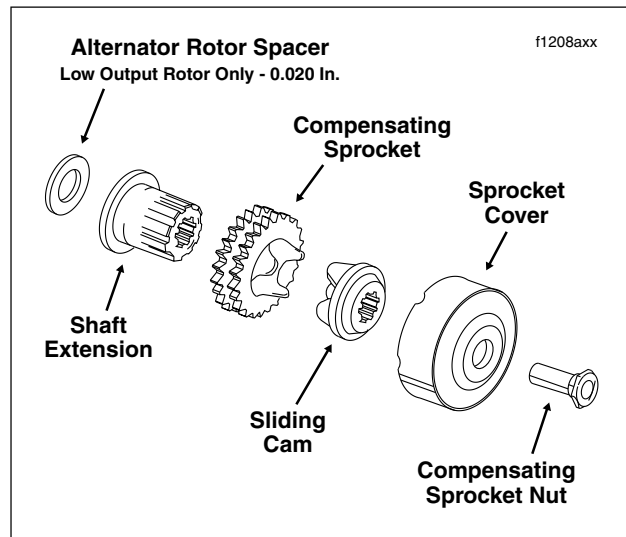

Figure 6-29. Engine Compensating Sprocket Assembly
- Remove sprocket cover and sliding cam. See Figure 6-29.